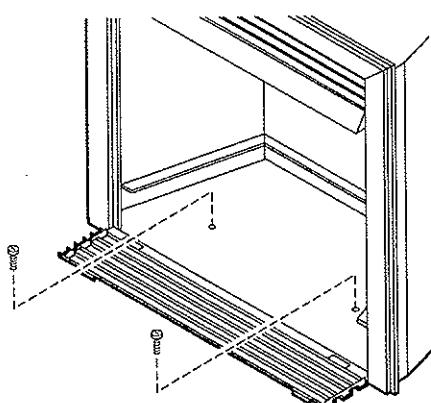

Figure 7. Securing Heater to Floor or Hearth
- Secure the firebox with two anchoring screws (3/16" x 1 1/4" length) supplied with the fireplace system *Refer to Figure 7.*